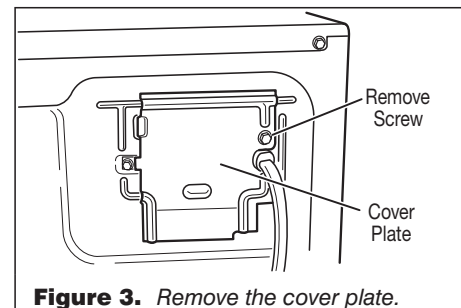

Figure 3. Remove the cover plate.
2. Remove the cover plate from the top right corner of the back of the dryer. See figure 3.
2. Remove the cover plate from the top right corner of the back of the dryer. See figure 3, page 4.